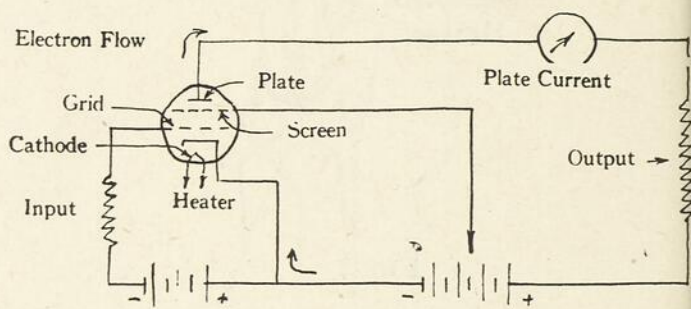

FIG. 5
**Tetrodes.** In high-gain radio-frequency amplifier circuits, interelectrode capacitance may act to produce undesired coupling between the input circuit (grid and cathode) and the output circuit (plate and cathode). This coupling may cause instability and unsatisfactory performance. The capacitance between grid and plate can be made small by mounting an additional electrode, called the screen in the tube. With the addition of a screen, the tube has four electrodes and is called a "tetrode". The screen is mounted between the grid and the plate and acts as an electrostatic shield between them, thus reducing the grid-to-plate capacitance, Figure 5. The effectiveness of this shielding action is increased by connecting a by-pass condenser between screen and cathode. By means of